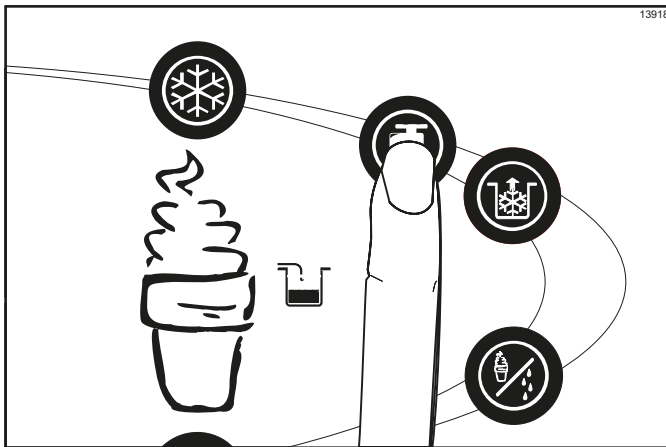

Figure 6-38
4. Press the Wash symbol . This will cause the cleaning solution in the freezing cylinder to come in contact with all areas of the freezing cylinder. Wait at least 5 minutes before proceeding with these instructions. (See Figure 6-38.)